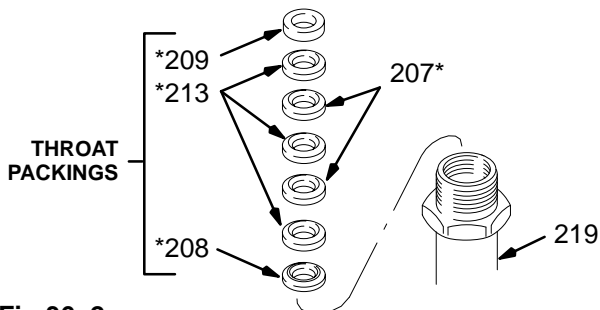

Fig 36-2
6. Remove the throat packings and glands. See Fig 36-2.